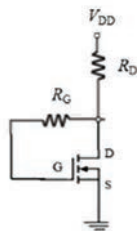

Figure 7.38 Ch 7: No. 19, self-test
19. Determine the values of V_{GS} for the circuit shown in Figure 7.38, if R_D is $3\text{ k}\Omega$, R_G is $4\text{ M}\Omega$, V_{DD} is 15 V , and I_D is 3 mA .